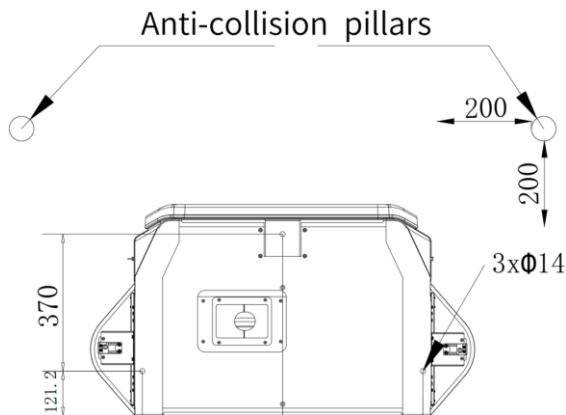

Fig. 5-4 Anti-collision pillars
- In order to prevent the vehicle from colliding with the charging station by mistake, it is recommended to install an anti-collision pillars at an appropriate position in front of the charging station (the minimum distance between the anti-collision pillars and the charging station is 200mm, which does not hinder the operation of the door switch) as shown in Fig. 5-4. The anti-collision column is pre-buried below the ground with no less than  $\phi 80$  galvanized pipe, the height of the ground is not less than 800mm, the wall thickness is not less than 3mm, and the surface coating is mixed with reflective materials.